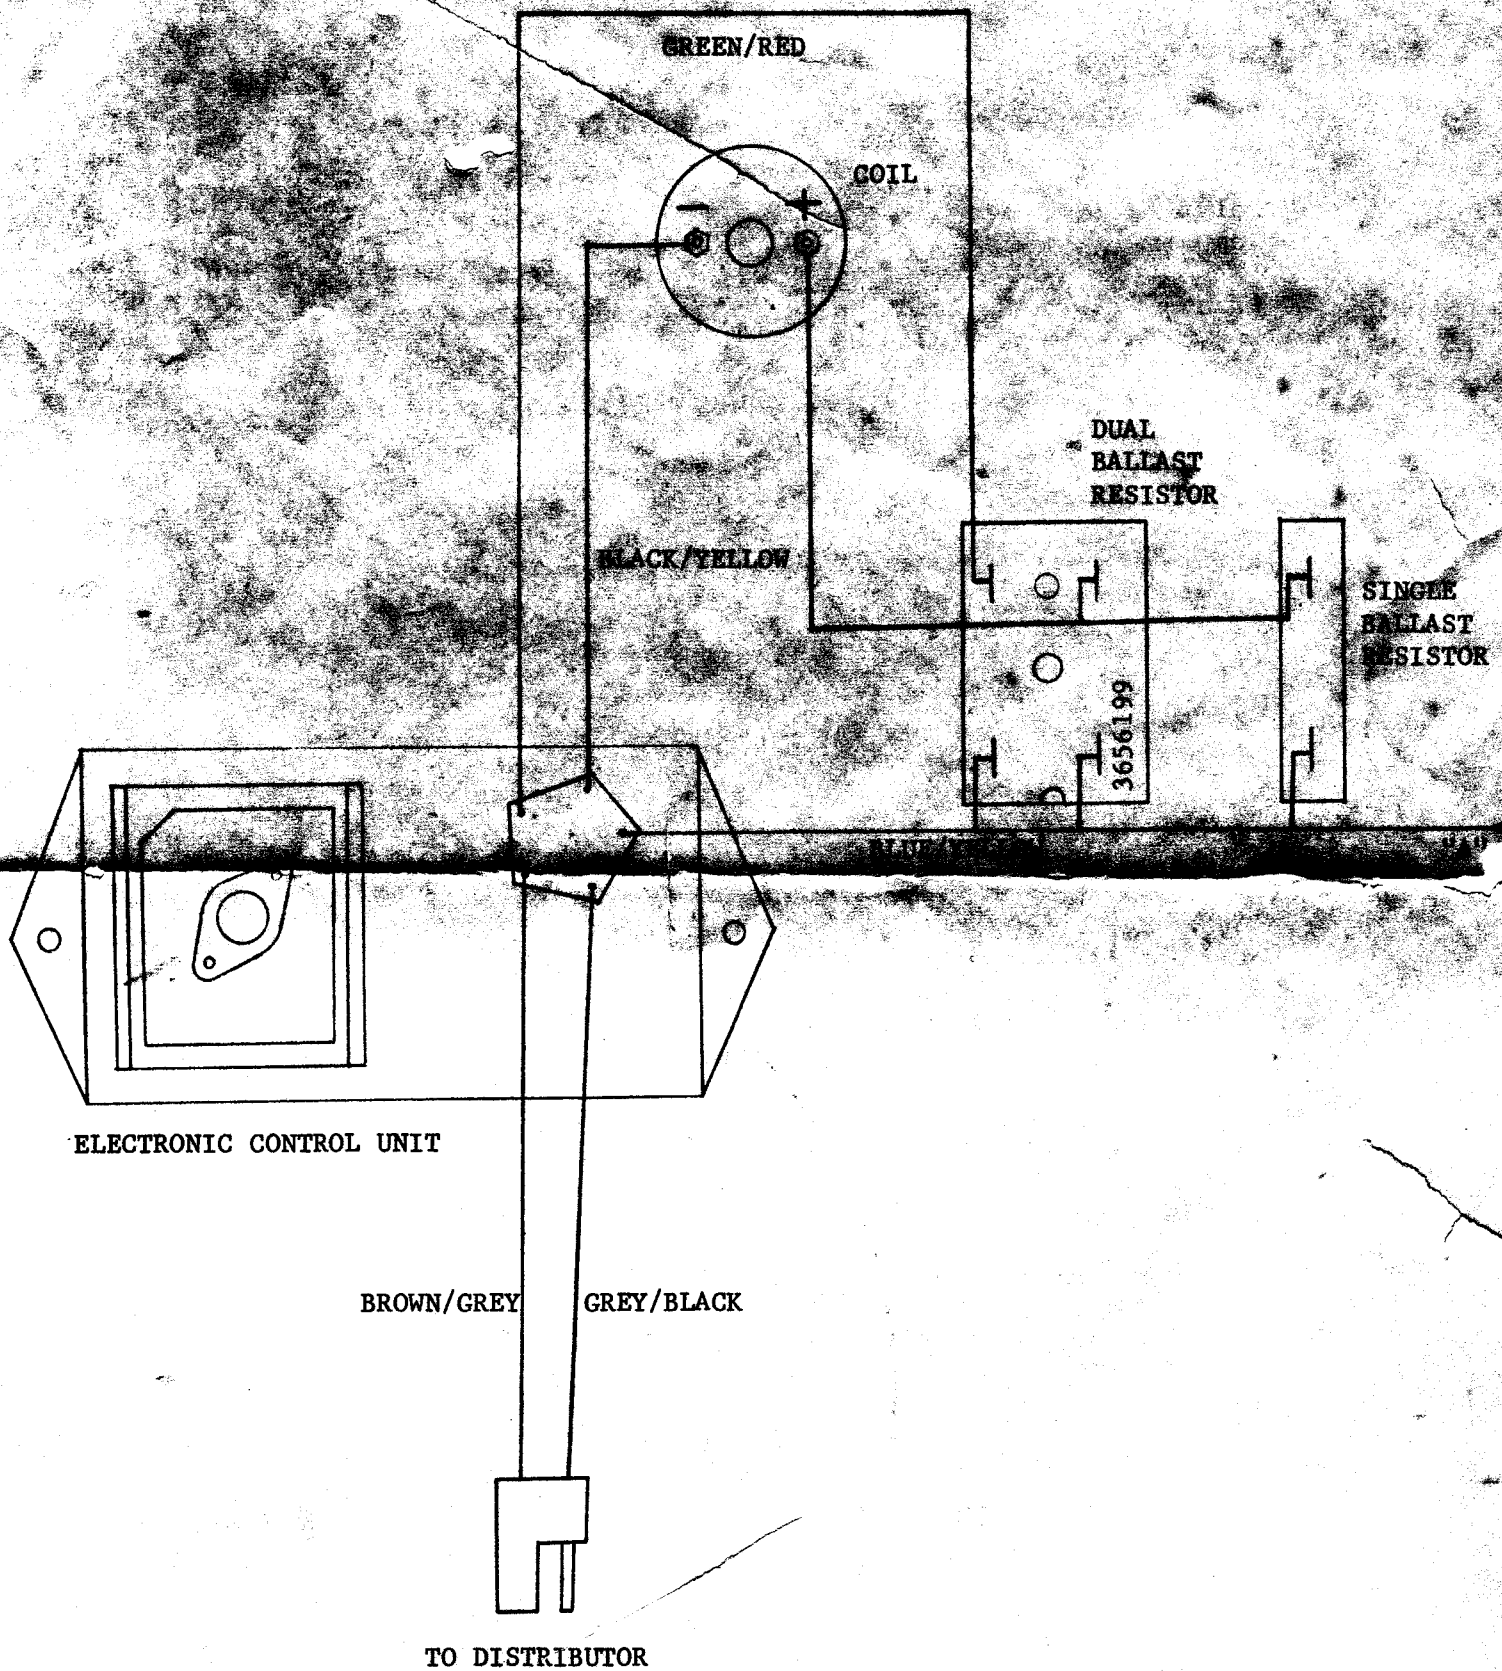

FIGURE 3
2. Install both the dual and single ballast resistors as indicated in Figure 3, Page 7.
3. Wire as shown in Fig. 3, Page 7.
4. Be sure terminal "A", Figure 3, Page 7, is supplied with battery voltage when ignition switch is in both "ON" and "START" position.